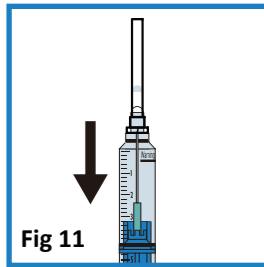

Fig 11
- If the needle cannot be automatically retracted after the fiducial line of the piston covers with the zero graduation line on the barrel, please pull back the plunger until the needle is inside the barrel. And then re-cap the protecting cap (Fig 11).